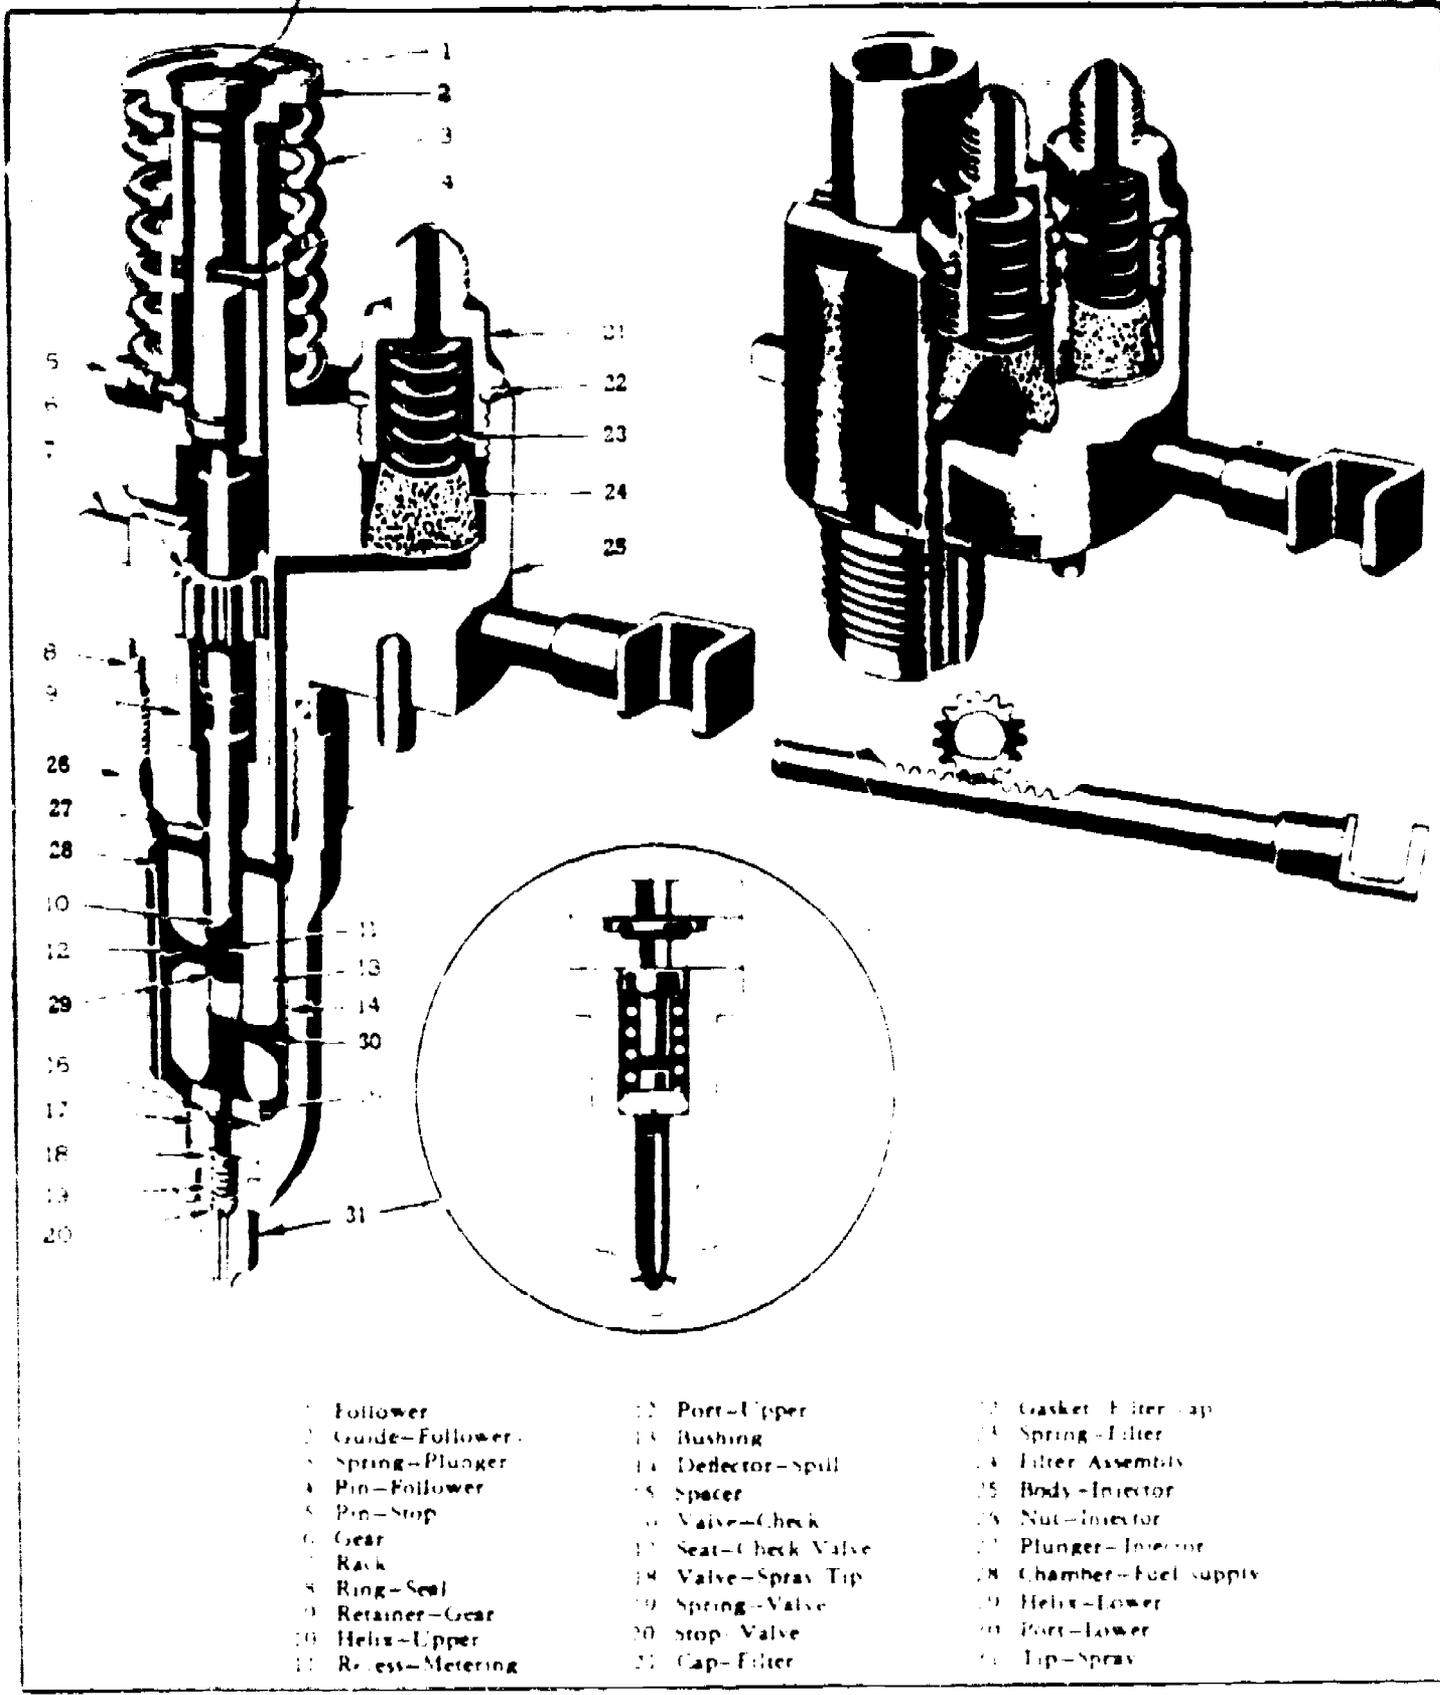
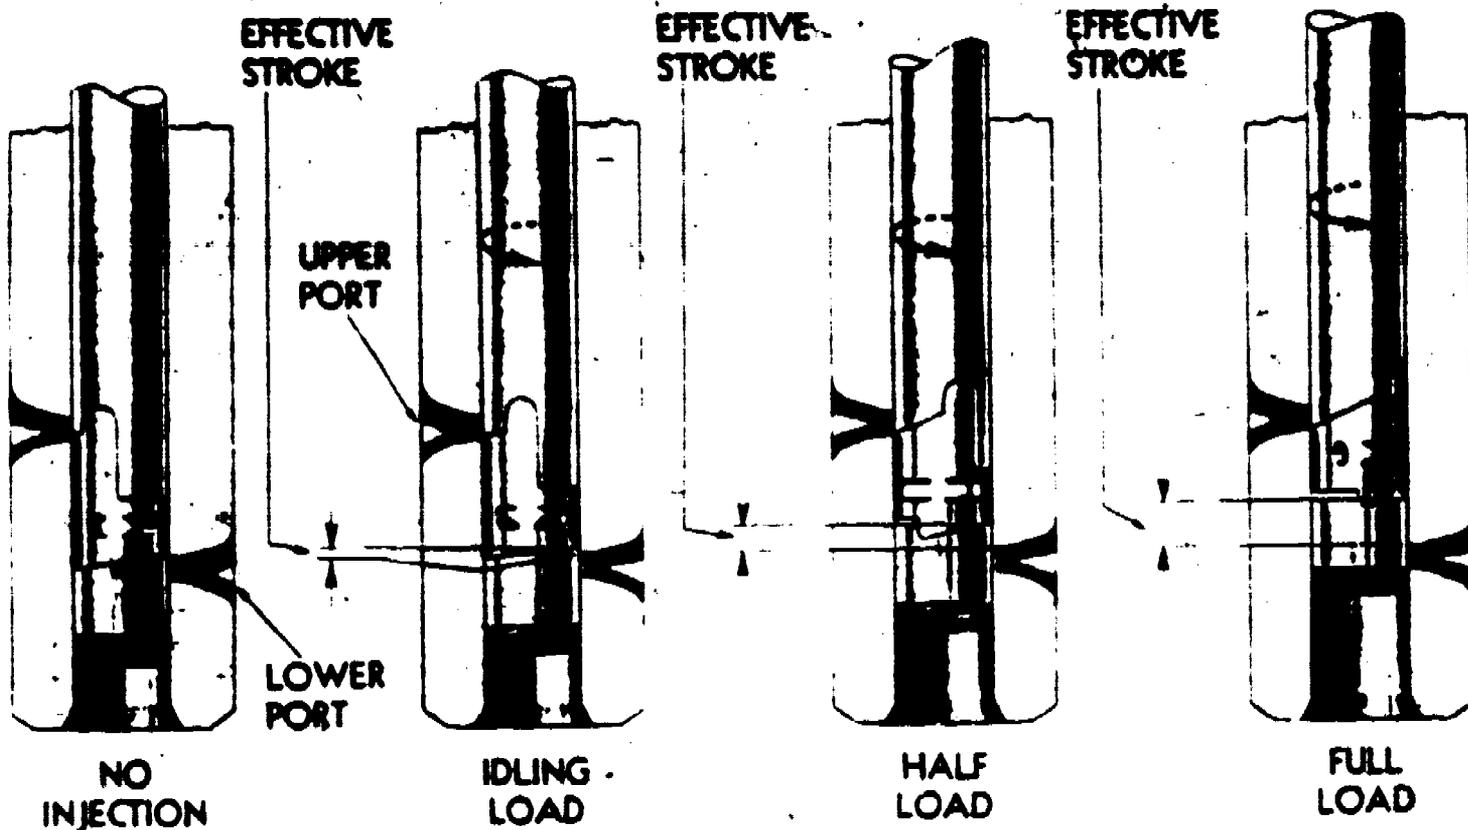

Figure 15. Cross Section of a CMC Injector.
Figure 16. Fuel Metering from FULL LOAD to NO LOAD Produced by Rotating Plunger With Control Rack.
Beneath each fuel line connector in the injector body are small filtering elements, figure 15. The elements are made of a porous material and as they are very hard to clean, they should be replaced with new ones if they become excessively dirty. If old elements are being reused they should be reinstalled in the same openings from which they were removed because fuel passes through the elements used on the inlet connections in the reverse direction from those used on the outlet connections. Small particles of dirt that may have lodged on the inner surface of the outlet filter may be washed into the injector if it is used on the inlet side.
As previously explained, the fuel pressure must be higher than that of the air charge in the combustion chamber so that fuel can be injected into the combustion chamber at the specified time. Besides injecting fuel into the combustion chamber at the specified time, some means must be provided so that only a certain amount of fuel is injected at this time. This fuel also must be atomized for proper burning when it is injected into the combustion chamber. The unit fuel injector combines in a single unit all the parts necessary to perform the above functions. Thus, the fuel injector injects the fuel at the correct time, meters the fuel, creates a high fuel pressure, and atomizes the fuel. This provides a complete and independent injection system for each engine cylinder. The cross section of the injector, figure 15, shows the various parts.
The fuel oil is supplied to the injector at a pressure of approximately 40 psi. The fuel fills the annular supply chamber between the bushing and the spill deflector, figure 15, item 28. The injector plunger, operated by a rocker arm which is actuated by the camshaft, operates up and down in this bushing. The bore of this bushing is connected to the fuel supply in the annular chamber by two funnel-shaped ports, figure 15. In addition to the reciprocating motion,
the plunger can be rotated in operation around its axis. This is accomplished by the gear, figure 15, which is in mesh with the rack. An upper and lower helix are machined into the lower end of the plunger. These helixes, figures 16 and 17, are for metering purposes. The relation of these helixes to the two ports, changes with relation of the plunger. Changing the position of the helixes by rotation of the plunger, retards or advances the closing of the ports which is the same as changing the beginning and ending of injection or the effective stroke. The longer the effective stroke, the more fuel injected.
Note Reference should be made to figures 16 and 17 for positions of the plunger during fuel metering and injector operation.
PLUNGER ON DOWNWARD TRAVEL. As the plunger moves downward, the fuel in the high-pressure cylinder or bushing is first displaced through the ports back to the supply chamber until the lower edge of the plunger closes the lower port. When this takes place, the remaining fuel is then forced upward through the central passage of the plunger into the recess between the two helixes. From this point the fuel can flow back into the supply chamber until the upper helix closes the upper port. The metered amount of fuel is then forced through the valve assembly, check valve, and against the spray tip valve, figure 15. When sufficient fuel pressure is built up, the spray tip valve is lifted off its seat and the fuel is forced through small orifices in the spray tip and atomized in the combustion chamber.